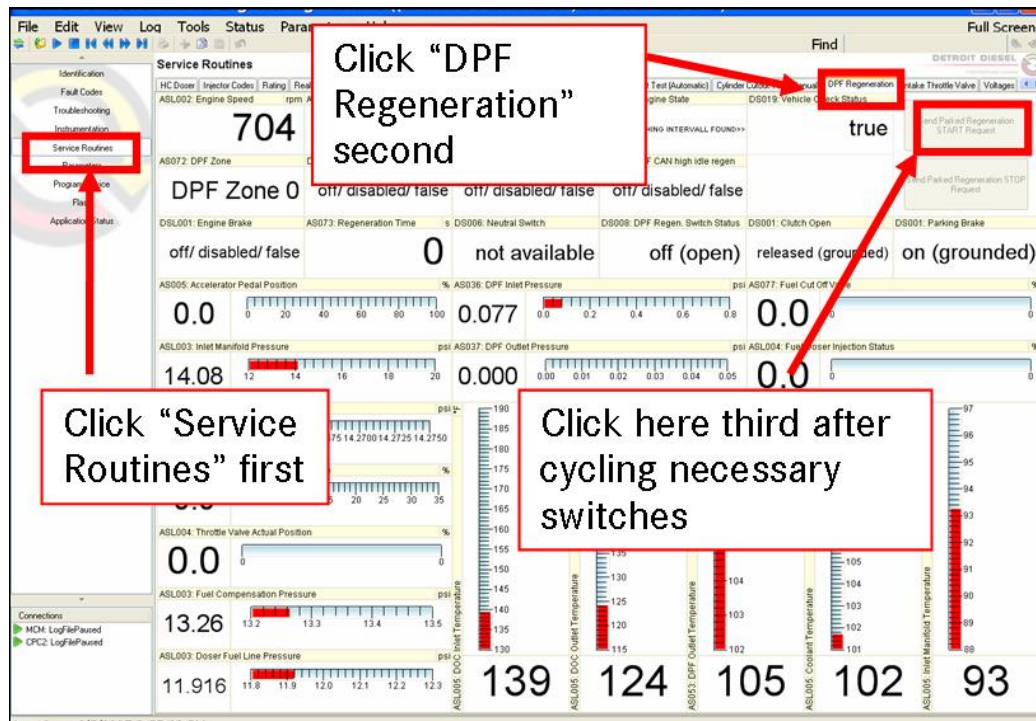

Figure 10 – DDRS 7.0 “DPF Regeneration” Service Routine
- b. Make sure the transmission is in neutral and the parking brake set (ON).
- d. Using DDRS 7.0, attach the diagnostic computer to the vehicle. Click on the “Service Routines” button on the left side of the screen, click on the “DPF Regeneration” tab near the top after scrolling it into view. See Figure 10.